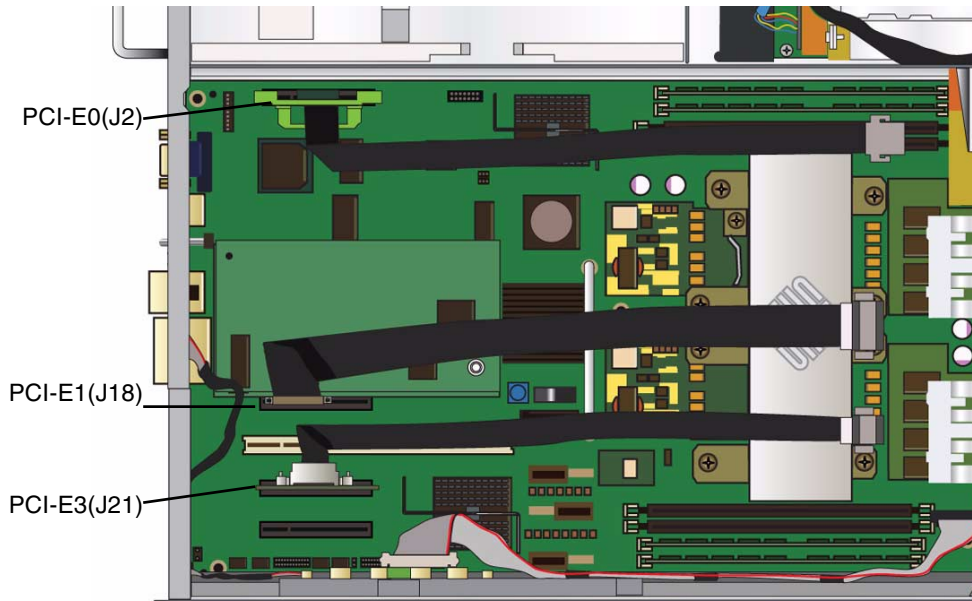

FIGURE 3-82 Reconnecting the PCI-E Cables/Goldfinger Assembly.
1. Reconnect the following PCI-E cable/goldfinger assembly at the following connectors on the motherboard assembly (FIGURE 3-82):